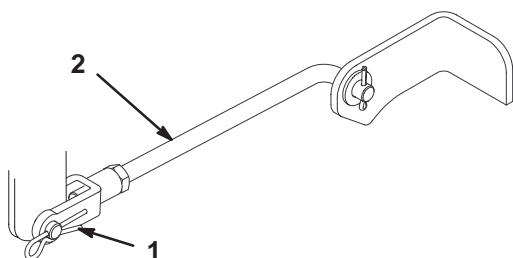

Figure 44
3. Remove the hairpin cotter and clevis pin from the front trunion yokes (Fig. 44).
6. Attach the front trunion rods to the tractor with the clevis pins and hairpin cotters (Fig. 44).